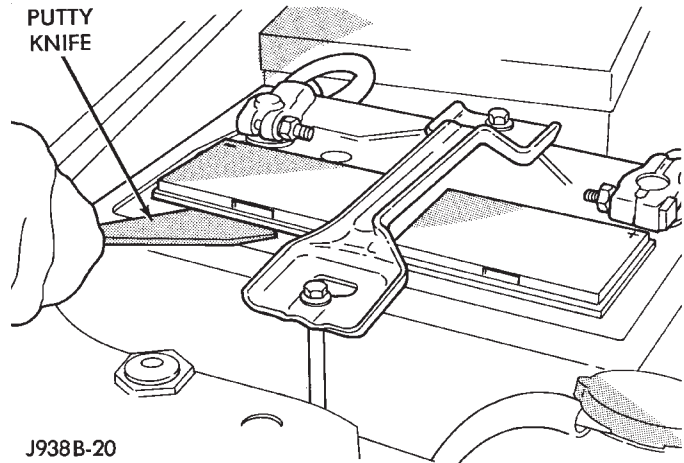

Fig. 19 Removing Cell Caps - Typical
(5) Inspect the battery tray and the holddowns for corrosion or damage. Remove any corrosion using a wire brush and a sodium bicarbonate (baking soda) and warm water cleaning solution. Paint any exposed bare metal and replace any damaged parts.
(6) Inspect the battery case for cracks or other damage that could result in electrolyte leaks. Also, check the battery terminal posts for looseness. Batteries with damaged cases or loose posts must be replaced.
(7) Check the electrolyte level in the battery. Use a putty knife or another suitable wide flat-bladed tool to pry the cell caps off (Fig. 19). Do not use a screwdriver. Add distilled water to each cell until the liquid reaches the bottom of the vent well. **DO NOT OVERFILL.**
(8) Inspect the battery built-in test indicator sight glass for an indication of the battery condition. If the